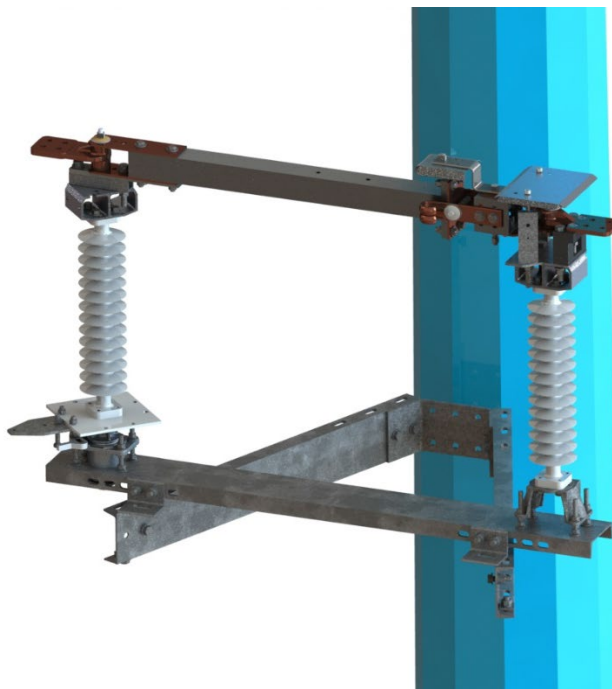

Figure 5: Mount switch to pole
- 3) Mount the switch to the pole. **Only lift the switch from the switch base.** Continue to support the switch until the frame support components are in place. See Figure 5 and 6.